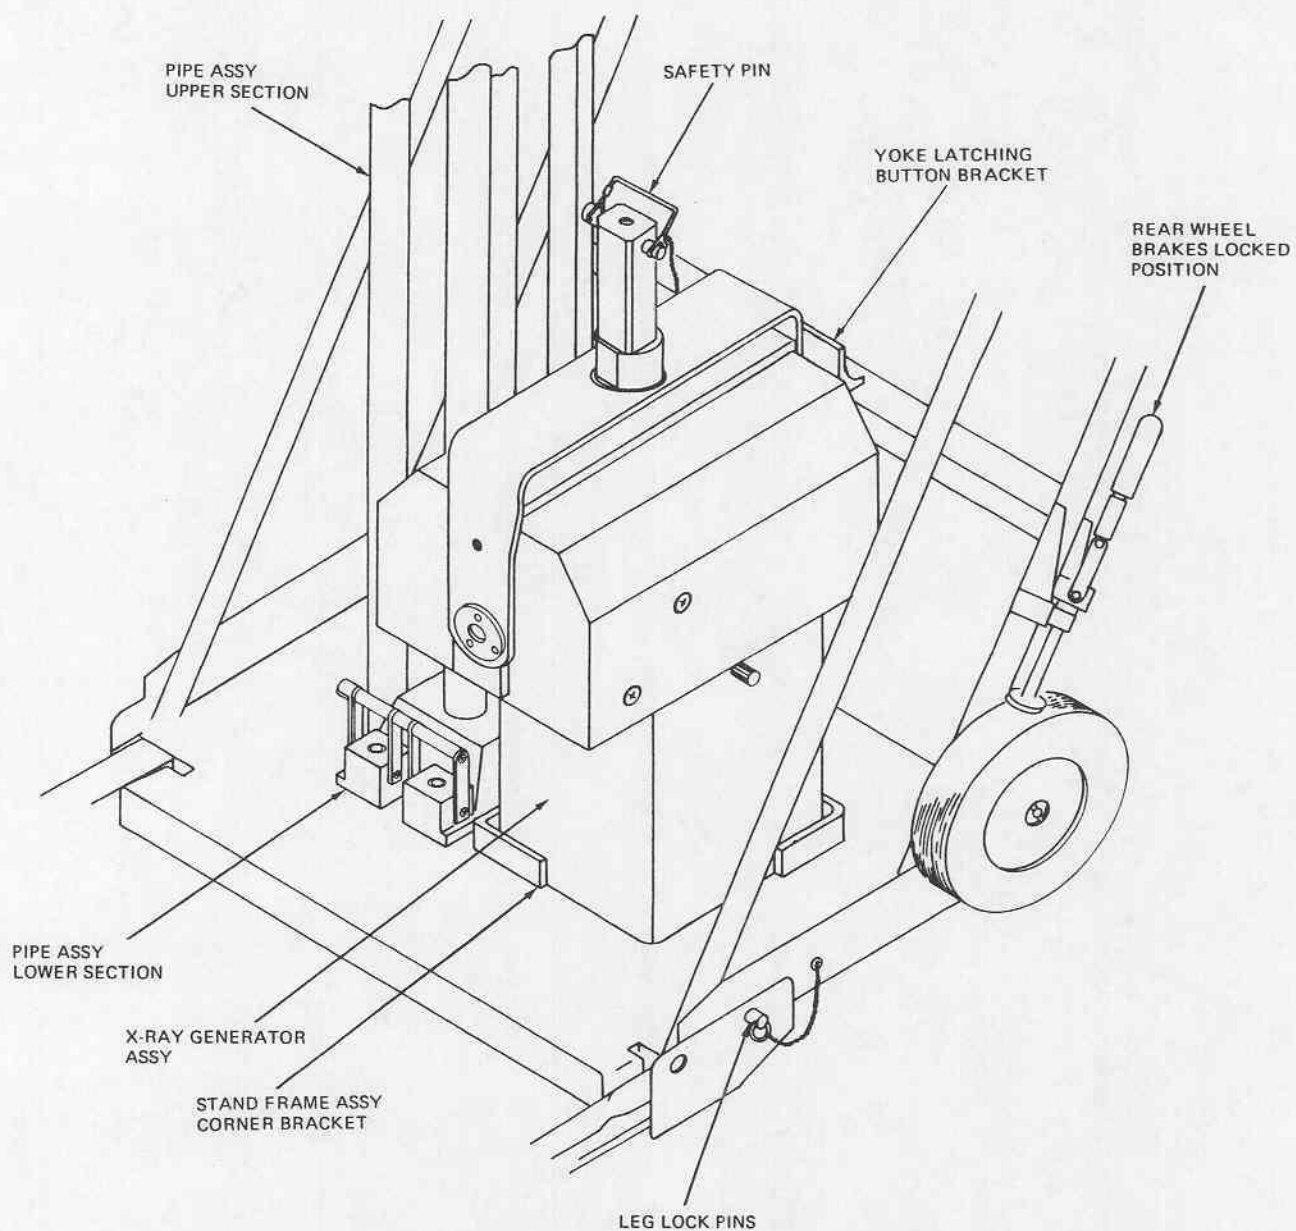

Figure 2-5. Transport Position X-Ray Generator Location
2. Lock rear wheel brakes, crank Gear Box Assembly down onto the pipe assembly, lower section (Figure 2-5).